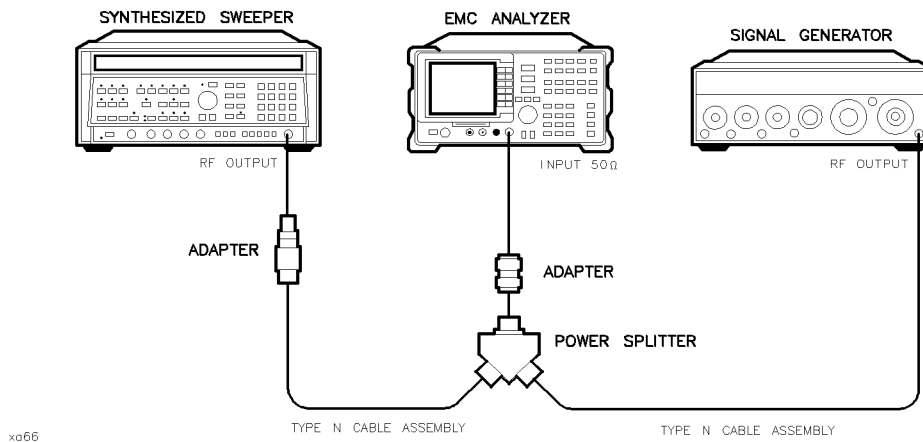

Figure 2-8.
1. Connect the equipment as shown in Figure 2-8. Note that the power splitter is used as a combiner.